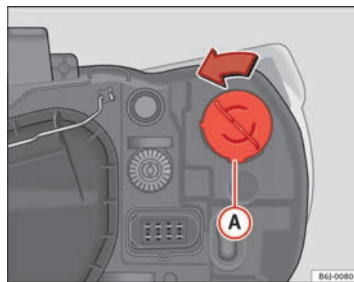

Fig. 143 Single turn signal lamp
- Rotate the bulb holder ⇒ fig. 143 Ⓐ to the left and pull.